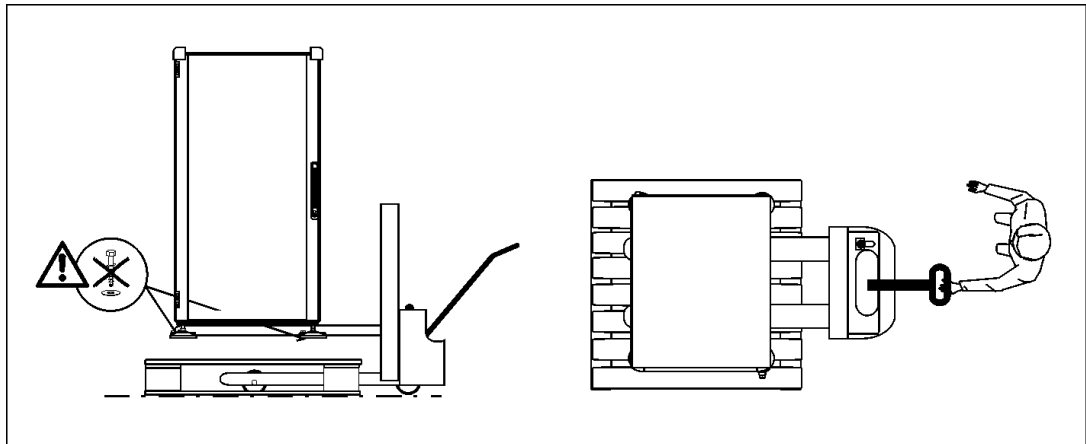

Fig. 5-2: Alpha Compact with Protective Cabinet from Pallet.
3	Remove all transportation safety device screws, if available, from rubber feet (s. Fig. 5-2 :).
- 4** Lift the labeler with a double hand fork lift truck resp. fork lift truck in shown way from the pallet (s. **Fig. 5-2**:).